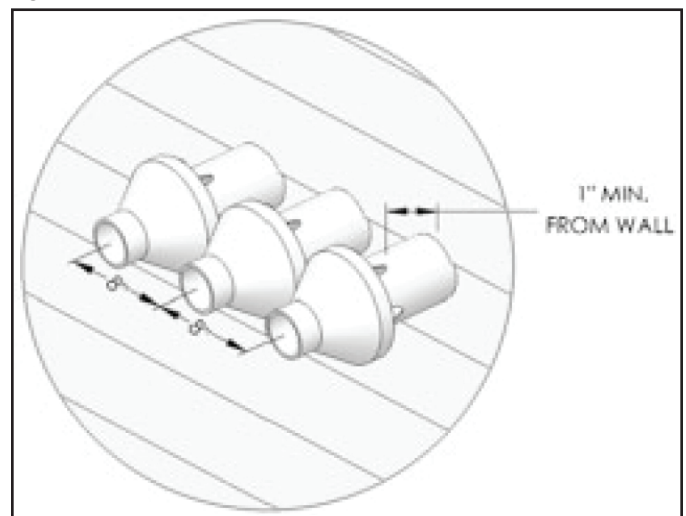

Figure 7 - Multiple Boiler Installations
9. Allow 8" center-to-center distance between concentric vent terminations on multiple boiler installations (see Fig. 7).